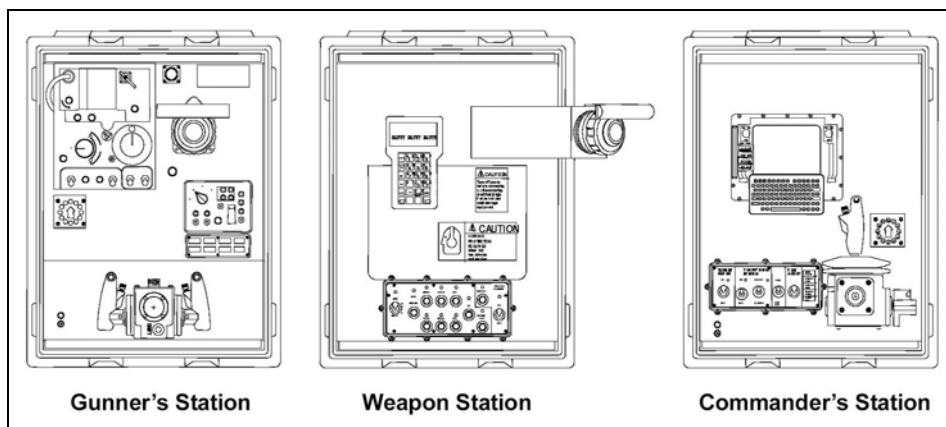

Figure 4-10. M6 Linebacker tabletop trainer.
e. **M6 Linebacker Tabletop Trainer.** The LTTT (Figure 4-10, page 4-12) is a deployable training device used for institutional and unit training. The system consists of gunner, commander and an instructor operator stations. It has no driver's station. Drivers should work with the BC and gunner to develop the coordination needed to synchronize movement of the vehicle into and out of defensive positions.
(1) The LTTT targets consist of UAVs, cruise missiles, fixed wing, helicopters, 1/5 Scale SU-25s, trucks, troops and PC targets.
(2) The LTTT develops and tests the proficiency of the individual, and squad in gunnery techniques. The LTTT's aerial gunnery tables provide performance-oriented, sequentially progressive, realistic, and challenging training. The LTTT provides the squad leader and gunner a simulated environment to gain proficiency with crew coordination skills required to execute their mission in combat.
(3) Switchology on the LTTT is very challenging for the Linebacker crew. The crew must change from "Stinger Engage" mode to "25-mm and 7.62-mm Gun Engage" mode. The system scores the crew's ability to change between these two firing modes. A crew that fails to follow the correct switchology procedures fails the exercise.
(4) The Stinger scoring matrix resembles the Bradley COFT matrix. It advances or reduces a crew based on their engagement abilities. In the computer-recommended exercise, the crew is graded on target acquisition, reticle aim, and system management. They receive a grade of "A" (rapid advance), "B" (normal advance), "C" (no advance) or "F" (reduced), depending on their engagement ability.